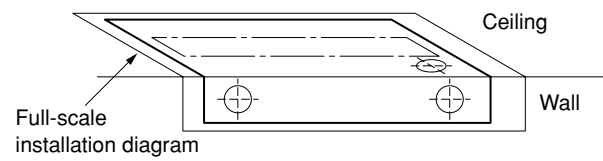

Fig. 3-84
- (1) Place the full-scale diagram (supplied) on the ceiling at the spot where you want to install the indoor unit. Use a pencil to mark the drill holes. (Fig. 3-84).